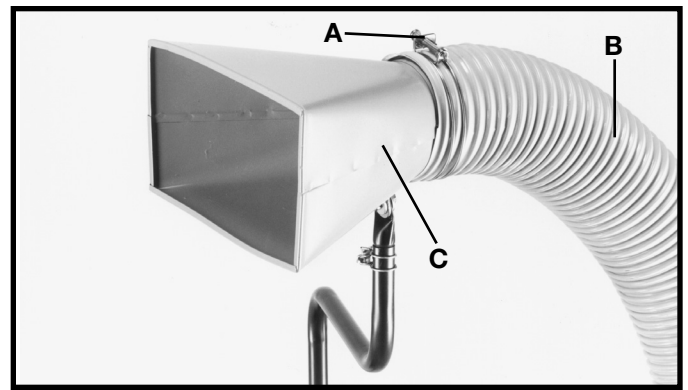
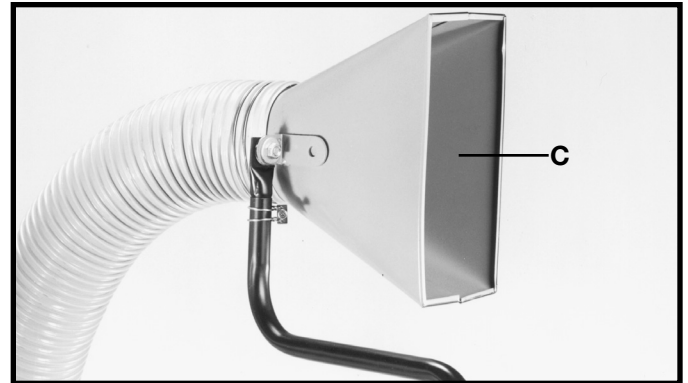

Fig. 17
Fig. 18
- Place the remaining hose clamp (A) Fig. 17, around the other end of hose (B), slide hose (B) onto intake funnel (C), and tighten hose clamp (A). **NOTE:** If desired, intake funnel (C) can be rotated to the vertical position, as shown in Fig. 18.